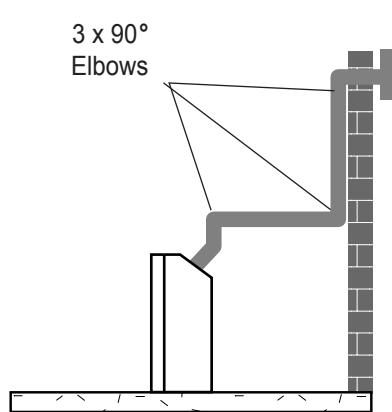

Figure 18 - Maximum Three (3) 90° Elbows Per Installation
- The maximum number of 90° elbows per side wall installation is three (3), the maximum horizontal run is 20" (*Figures 18, 19*).